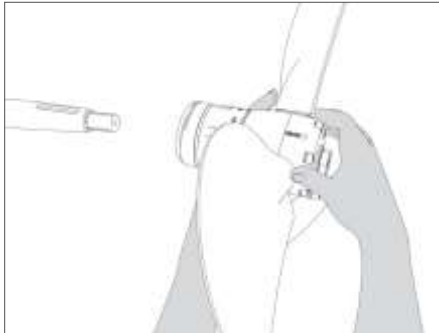
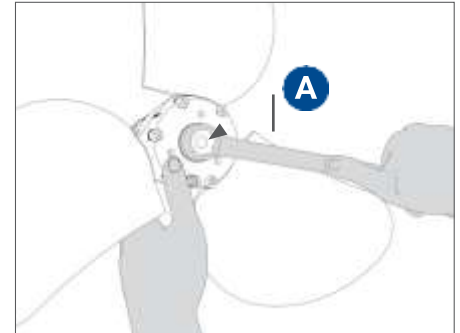

FIG. 6 Propeller insertion onto the shaft
FIG. 8 Lock nut tightening
- Engage the propeller assembly onto the shaft without a key (**Fig. 6 and 7**), hold it in place and tighten the nut **A** until the end (**Fig. 8**).